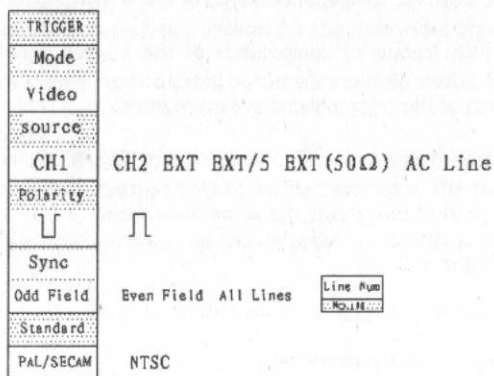

Figure 2-13
b. Video: Use video trigger on fields or lines for standard video signals. See Fig.2-13.
Choose video triggering to trigger on fields or lines of NTSC, PAL, or SECAM standard video signals, as Fig.2-13. Trigger coupling presets AC.